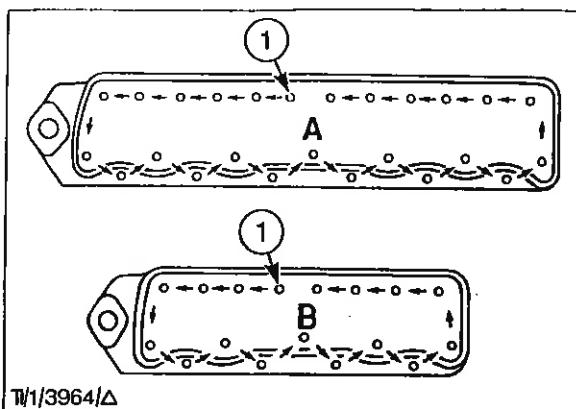

Fig. 75 - Cylinder Head Bolts Tightening Sequence
98. Tighten the cylinder head bolts by increments, in the sequence shown in Fig. 75 to the specified torque.